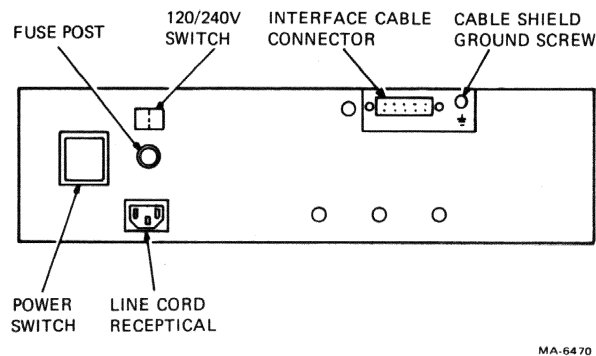

Figure 4-1 TU58-DA Rear Panel
Detachable line cords for 115 V and 230 V, and two fuses are supplied with the TU58-DA. The line cord receptacle meets European IEC standards. A switch on the back of the tape drive rear panel selects 115 V or 230 V (Figure 4-1).
- Disconnect the power cord and interface cable from the rear panel of the TU58 (Figure 4-1).
- With the power cord and interface cable removed (Figure 4-1), carefully place the TU58-DA upside-down on a flat working surface so the front of the device is facing you.
- Remove the rubber feet if attached by removing the screws that hold them in place (Figure 4-1). Refer to Figure 4-2 and align the two support brackets on the bottom of the TU58-DA so they are flush with the left side. Fasten down the right side of each support bracket with two screws and two lock washers.
1. Disconnect the power cord and interface cable from the rear of the TU58 (Figure 4-1).